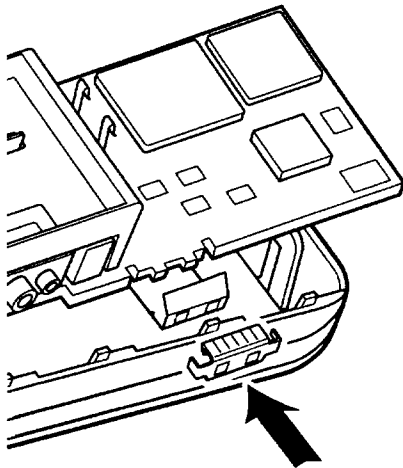

Figure 1-12. Reconnect Flex Cable
2. Place folded end of flex cable around connection on main board (Figure 1-12).
3. Insert tabs on connection through holes of flex cable (Figure 1-12). The exposed conductors on flex cable should touch contacts on main board.
4. Place flex clip into position on main board and push towards main board until flex clip snaps into place (Figure 1-12).